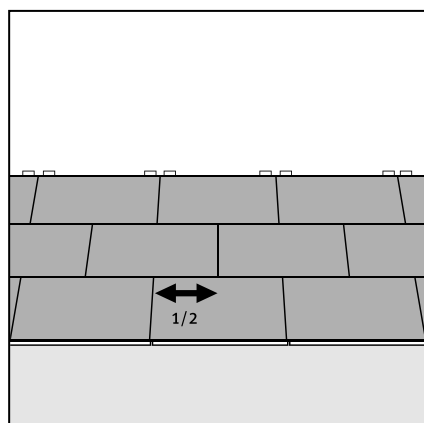

Figure 16 Stagger the short joints
- > Insert the upper male profile of the long side of the panel into the corresponding lower profile of the long edge of the panel in the previous row, at a slight angle. Press down until it locks into place. Always try to stagger the short joints approx. 150mm from the nearest short joint in the previous row (Fig 16).